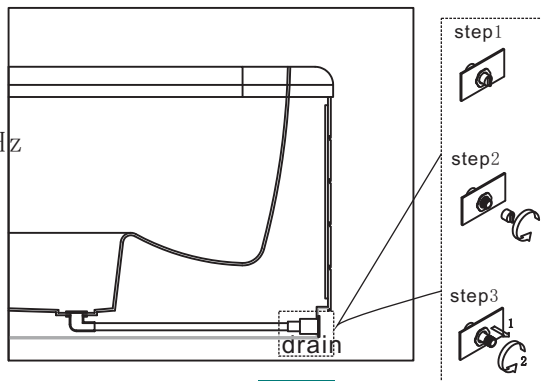

Fig 1
1. Check to make sure the drain cap located in the lower corner of the spa base is tight and secure before filling the spa with water. You may attach an optional drain hose to the drain connection to drain water away from the spa. (Fig.1)